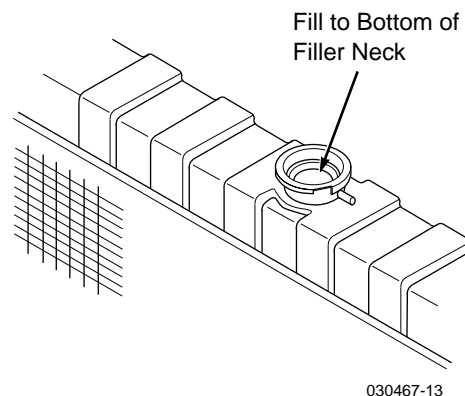

Figure 7-13 Cutter Deck Gearbox
2. Visually check the coolant level. The coolant level should be up to the bottom of the filler neck as shown in figure 7-13. Add a mixture of coolant and soft water as needed.